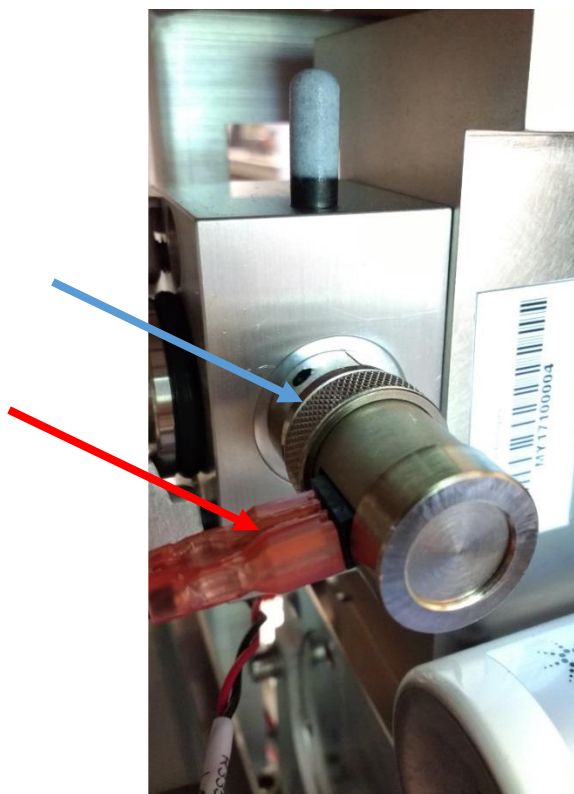

Figure 8: Spade Connectors
4. Disconnect the two spade connectors (red arrow in Figure 8: Spade Connectors):
5. Use an Allen wrench to loosen valve from housing (blue arrow in Figure 8: Spade Connectors).